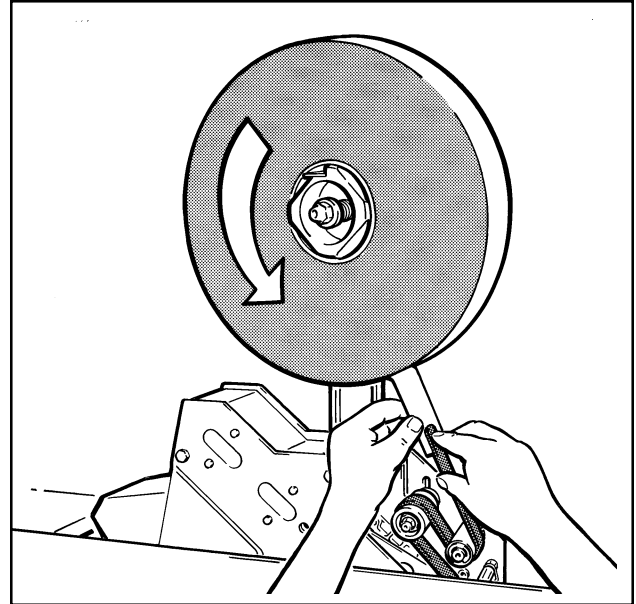

Figure 3-4—Tape Loading and Threading
3. Place tape roll on tape drum to dispense tape with adhesive side forward. Seat tape roll fully against back flange of drum. Attach tape lead end to threading needle as shown in Figure 3-4.